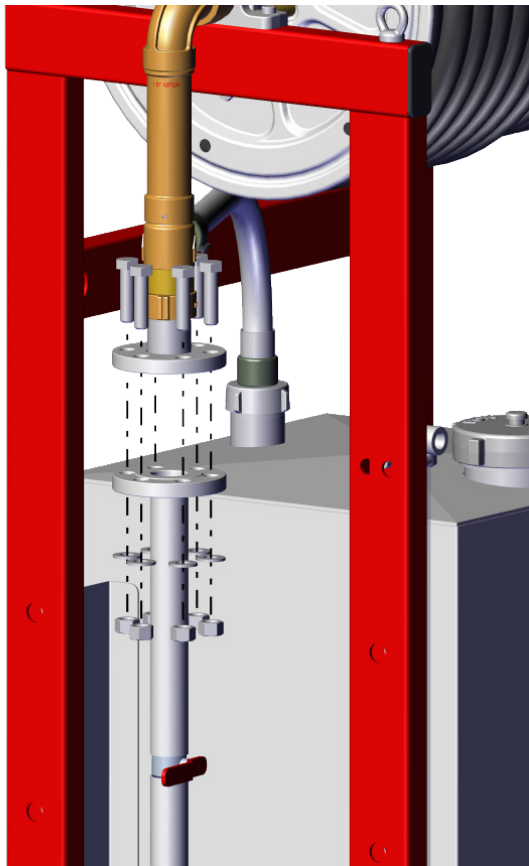

Fig. 3
- **2** - Align the upper flange (already fitted on the foam station) on its location carefully to the bottom flange. The gasket must stay in place, centered and flat. (Fig. 3)